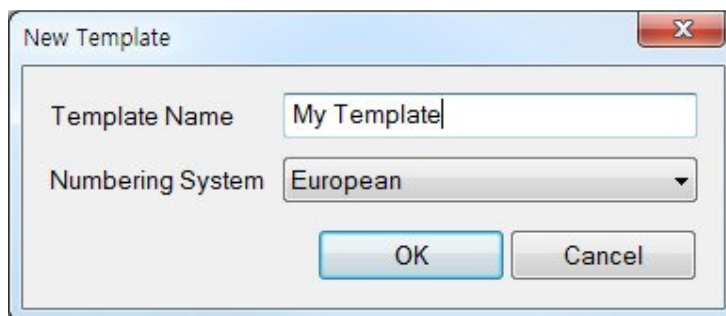

Figure 3.1 New Template
2. Enter the name of new template at Figure 3.1 and click **OK**